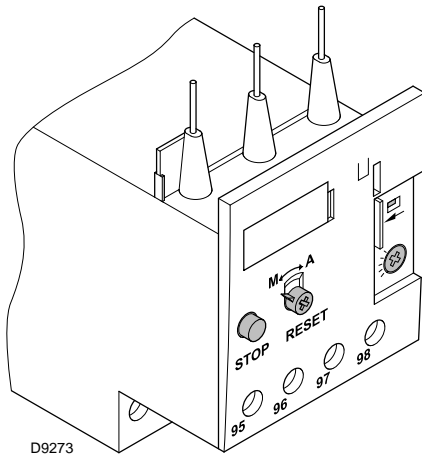

Fig. 24
The electro-mechanical thermal relay (Fig. 24) is used to avoid damage to the motor owing to a strong increase in absorption or the lack of a phase.
- To reset, in the case of an intervention of the thermal relay, press the button **"RESET"** (Fig. 24).
- The button **"STOP"** (Fig. 24) opens the NC (95-96) contact and stops the motor.